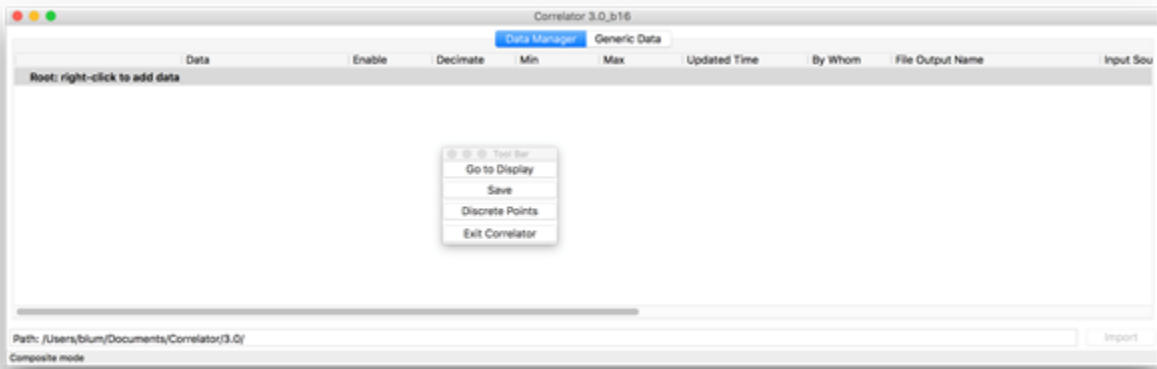
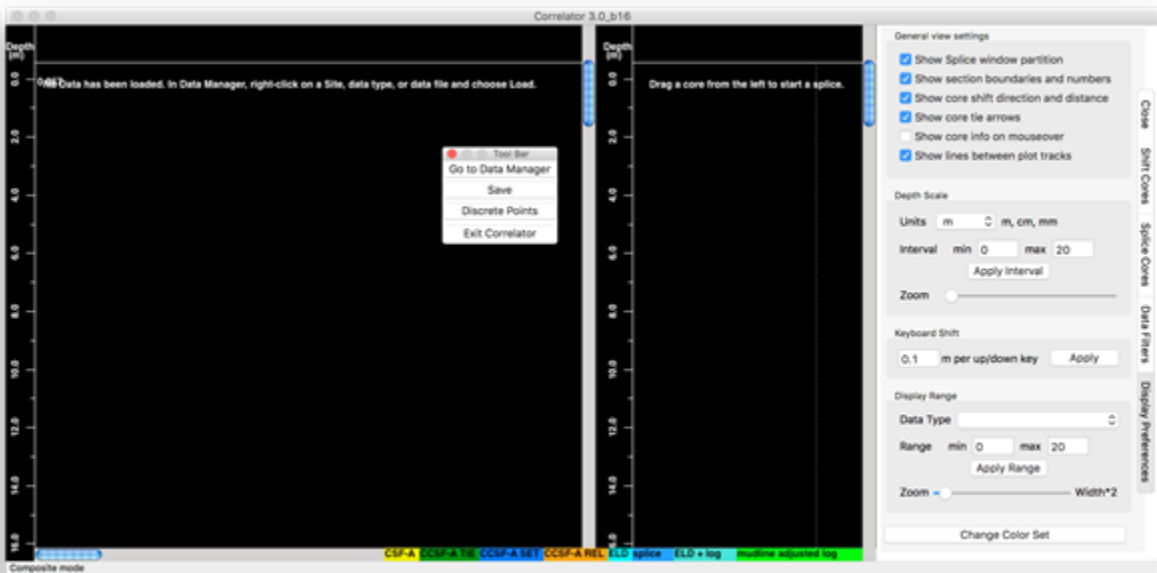
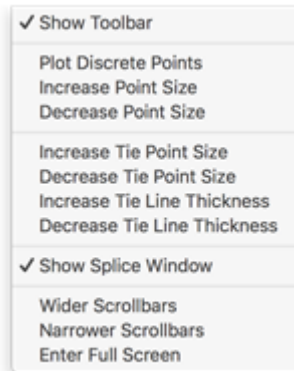

Figure 1-41. Data Manager view. Also shown is the floating tool bar, where the top button can be used to toggle to the Display view.
Figure 1-42. Display view, with the Display Preferences tab open on the right.
Figure 1-43. View menu. This menu offers fundamental display options that are very rarely changed and can typically be ignored by users.
Correlator operates within a single window that can be expanded as much as available monitor space permits. The window can be toggled between the Data Manager view (Fig. 1-41) and the Display view (Fig 1-42). To navigate between these views, use the top button on the floating tool bar (Figs. 1-41 and 1-42), which is always available on top of either view unless turned off in the View menu (Fig. 1-43).
- The Data Manager tab (Fig. 1-41) lists the files imported into Correlator and provides the functions for adding and managing the data in Correlator.
- The right plot area is for the construction of splices, and the corresponding controls are in the Splice Cores tab. This plot area can be turned off at the top of the Display Preferences tab (shown in Fig. 1-42) if more display space is preferred for depth shifting.
- Display Preferences: This tab has general data display controls, as shown in Fig. 1-42.
The Display Preferences are self-explanatory and not further described here. Additional, more fundamental display preferences are available in the View menu (Fig. 1-43).
- *Root* – right-click to add data (Fig. 1-41).